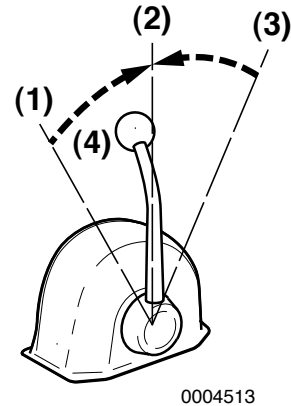

Figure 2
Use the throttle handle (**Figure 2, (4)**) to control acceleration and deceleration. Move the handle slowly.
2. **NOTICE:** NEVER shift the marine gear at high engine speed. During normal operation, the marine gear should only be shifted with the engine at idle. When moving the handle between FORWARD (Figure 2, (1)) and REVERSE (Figure 2, (3)), bring the clutch to NEUTRAL (Figure 2, (2)) and pause before slowly shifting to the desired position. Do not shift abruptly from FORWARD to REVERSE or vice versa.